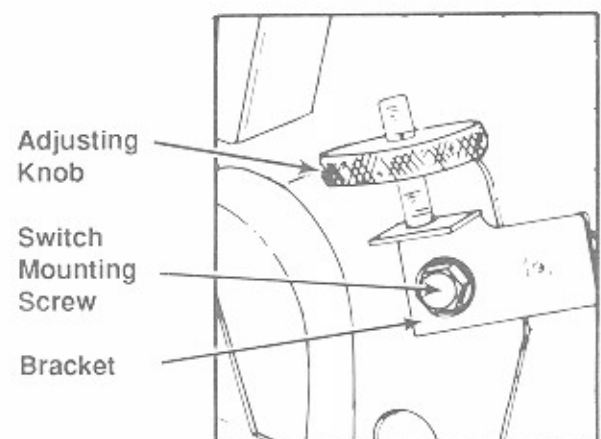

Figure 6-5. Optical Switch Adjustment
2. Loosen the optical switch bracket mounting screw, turn the adjustment knob counter clockwise to top of its travel, and move the bracket down to the bottom of its travel (*refer to figure 6-5*). Snug the optical switch mounting screw, so that the bracket can move with resistance.